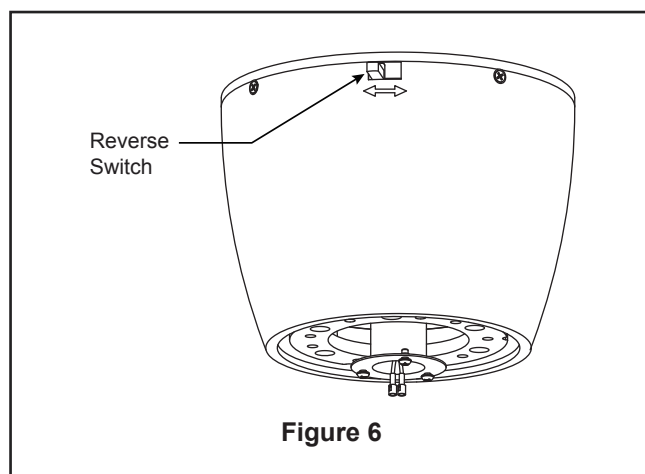

Figure 6
- ☐ **6.** Connect the 2 single pin connectors from the light kit assembly to the 2 single pin connectors from the motor assembly. (Figure 6)
6. If airflow is desired in the opposite direction, turn the fan off and wait for the blades to stop turning. Then slide the reverse switch on top of motor assembly to the opposite position and turn fan on again. (Figure 6)